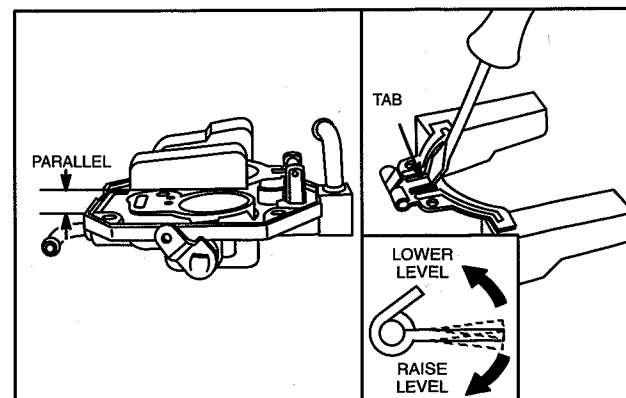

Fig. 115 – Check Float Level
19. Hold carburetor upper body upside-down as shown in Fig. 115.